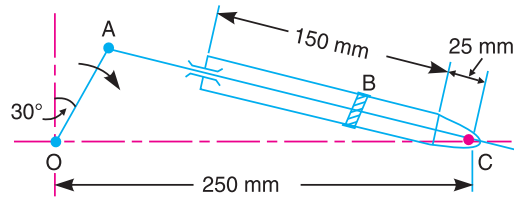

Fig. 8.45
10. In the oscillating cylinder mechanism as shown in Fig. 8.45, the crank  $OA$  is 50 mm long while the piston rod  $AB$  is 150 mm long. The crank  $OA$  rotates uniformly about  $O$  at 300 r.p.m.